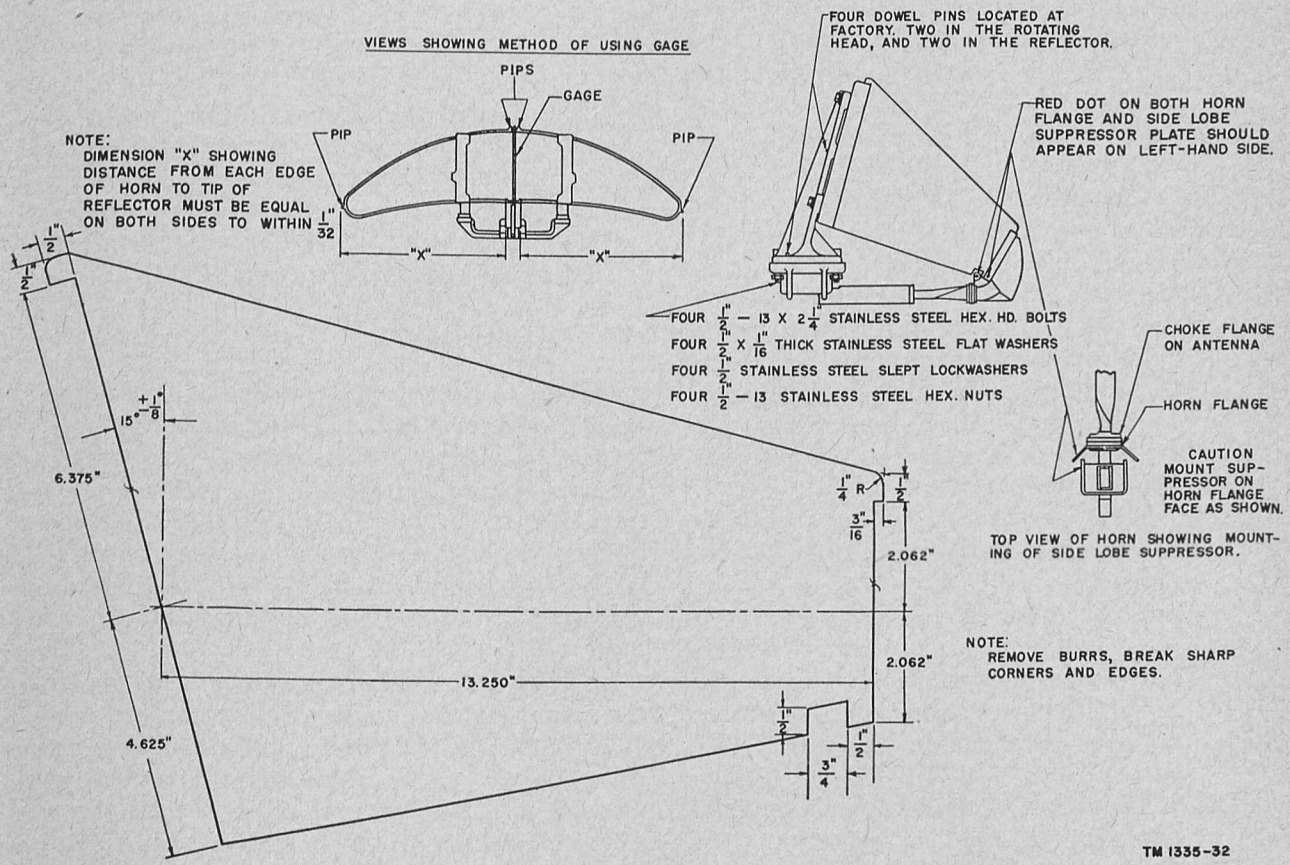

Figure 28. Antenna horn and reflector adjustments.
- (1) Remove the cover plate from the waveguide flange on the rotating assembly.
- (2) Mount the horn to the waveguide flange (fig. 28). Make certain that the red paint mark on the horn is aligned with the red mark on the wing under the two upper flange screws.
- (3) Fasten the horn to the waveguide flange by tightening the four flange screws.
antenna gage or with a 6-foot steel rule. Pips on the center and ends of the reflector (fig. 28) identify the correct points for measurement. The ends are marked by a single pip. The center of the reflector lies between two pips on the top and bottom of the reflector.
- (1) *Antenna gage check.*
- (c) Place the antenna gage between the two pips in the center of the reflector and over the antenna horn (fig. 28).
- (f) Measure the distances (X in figure 28)
- (2) *Steel rule check.* When an antenna gage is not available, use a 6-foot steel rule to check the reflector spacing.